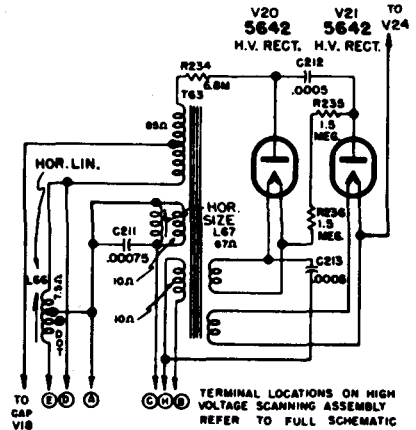

Fig. 23 — Sylvania
**Increasing stability of h-v output (see Fig. 23).**